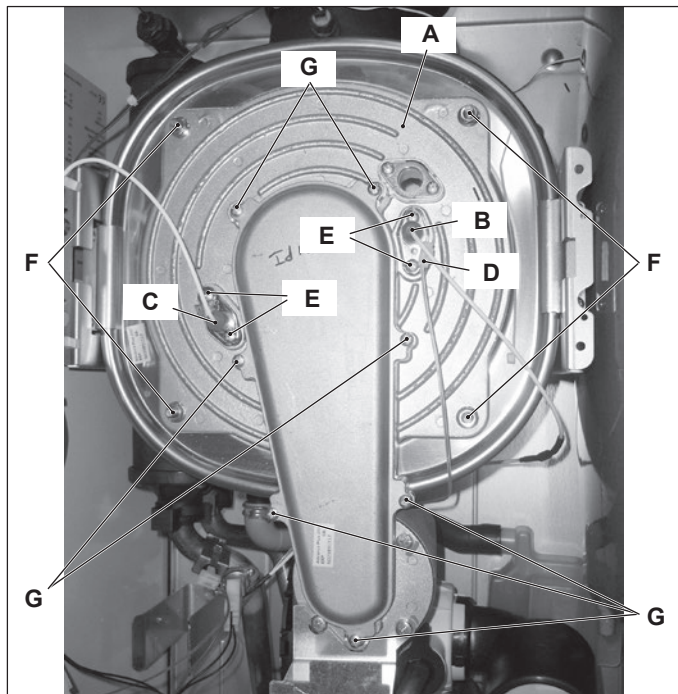
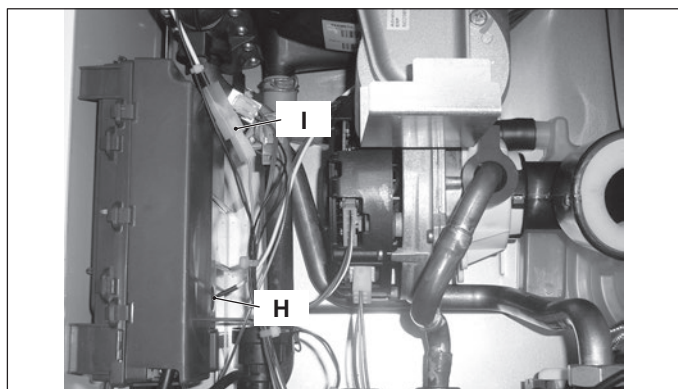

Figure 18.1
Figure 18.2
- 2 Disconnect the ignition electrodes connector "H" (Figure 18.2) and the earth wire "D" (Figure 18.1) and disconnect the detection electrode connector "I" (Figure 18.2).
- 3 Unscrew the screws "F" (Figure 18.1) and remove the cover of the combustion chamber.
- 4 Unscrew the screws "G" (Figure 18.1) and remove the Air-gas duct lid.